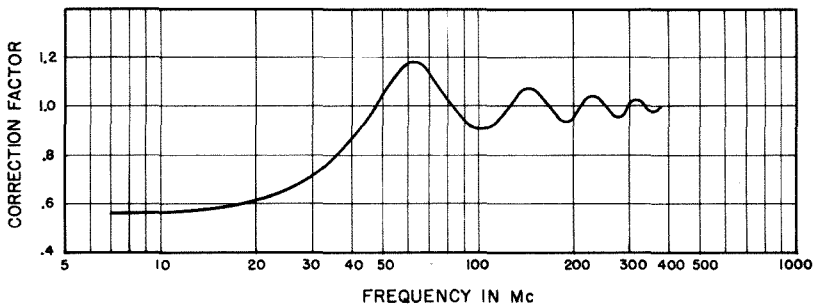
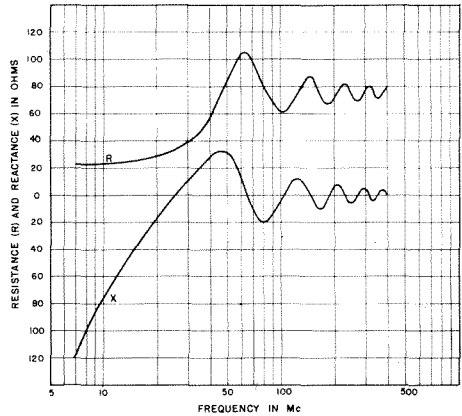

FIGURE 2. Plot of correction factor for output voltage as a function of frequency.
FIGURE 4. Resistive (R) and reactive (X) components of output impedance.
frequencies the output voltage at the far end of the output cable is practically the same. For lower frequencies a correction has to be applied. The output impedance approaches 75 $\Omega$  at the high-frequency end and corresponds to 185  $\mu\text{f}$  at low frequencies (100 in the output and 85  $\mu\text{f}$  in the cable). Correction factor and output impedance plotted against frequency are shown in Figures 2 and 3, respectively. The resistive and reactive components of the output impedance are shown in Figure 4.
2.6, the output voltage then is correct for the open circuit condition at the output jack and for the open circuit condition at the end of the 3-foot output cable for high frequencies. For low frequencies, particularly below 50 Mc, the correction factors shown in Figure 2 must be used.